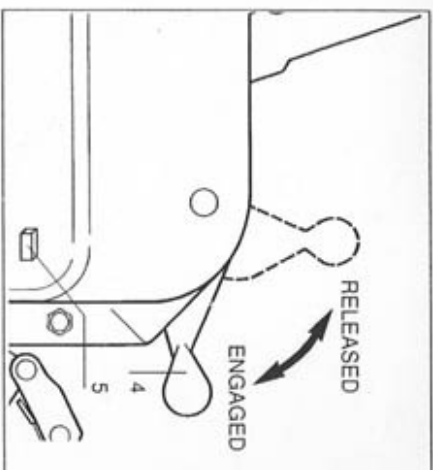

Fig. 7 - TU-8 and TU-16, Rope release lever.
There are two positions for the rope release lever (See Fig. 7, 8 and 9): released or engaged.
4.1. TU-8 or TU-16 (Fig. 7)